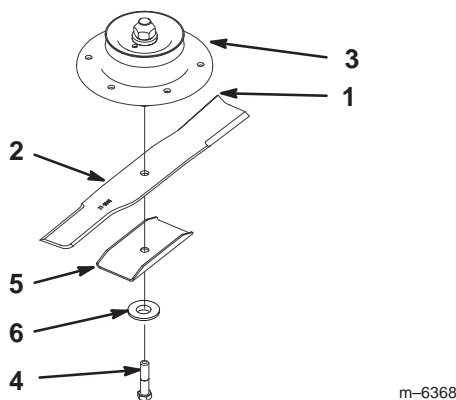
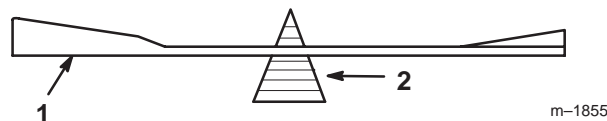

Figure 51
Figure 53
- Hold the blade end using a rag or thickly-padded glove. Remove the blade bolt, blade stiffener, washer, and blade from the spindle shaft (Fig. 51).
- Check the balance of the blade by putting it on a blade balancer (Fig. 53). If the blade stays in a horizontal position, the blade is balanced and can be used. If the blade is not balanced, file some metal off the end of the sail area only (Fig. 51). Repeat this procedure until the blade is balanced.
- Install the blade onto the spindle shaft (Fig. 51).
Important The sail part of the blade must be pointing upward, toward the inside of the mower to ensure proper cutting (Fig. 51).
- Install the blade stiffener, flat washer and blade bolt (Fig. 51). Torque the blade bolt to 85–110 ft-lb (115–140 N•m).